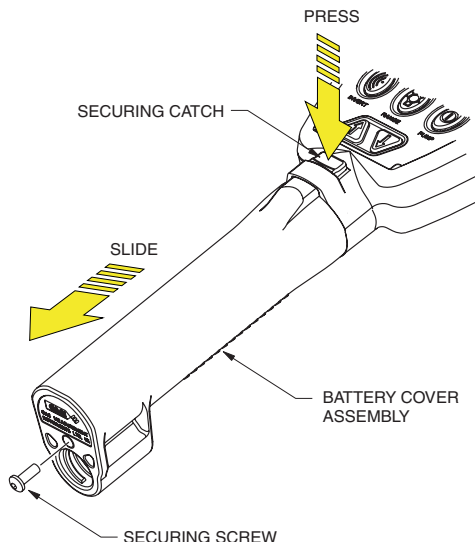

Fig. 12.11 Remove Battery Cover
- 1) Using a suitable screwdriver, unscrew in a counter clockwise direction and then remove the securing screw from the battery cover assembly. Refer to Fig. 12.11.
- 2) Using your thumb, press the securing catch to release the battery cover assembly from the instrument body then slide the cover in direction shown in Fig. 12.11 until completely removed.